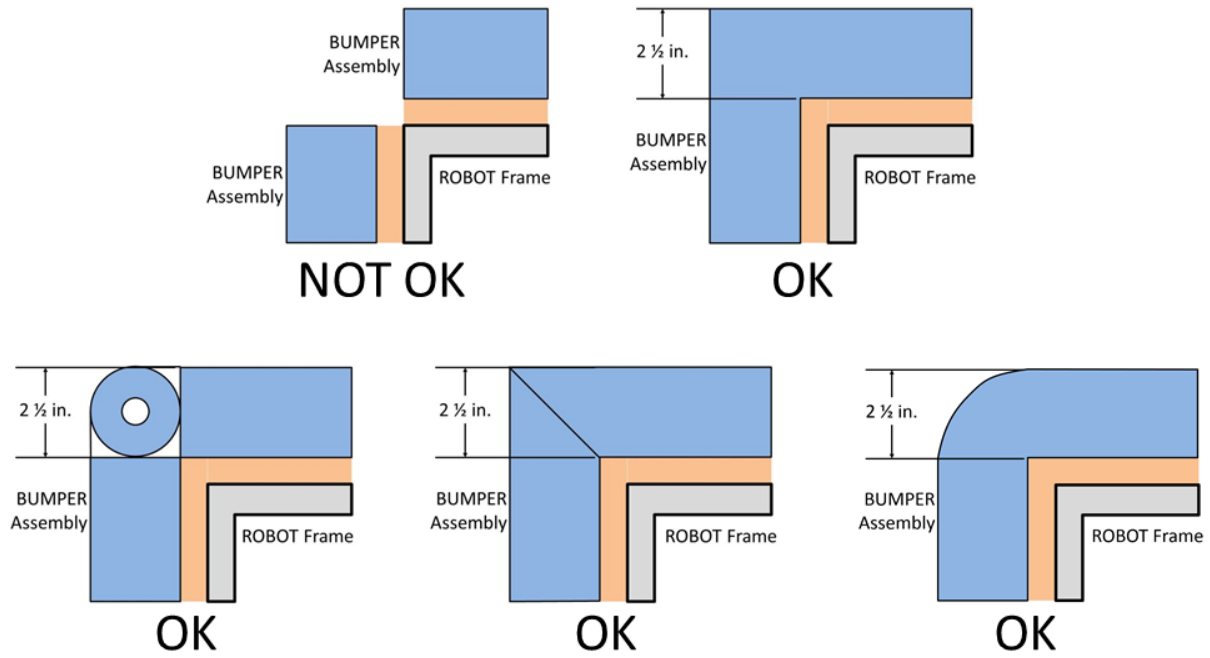

Figure 10-7 Soft Parts of BUMPER Corners
- R32. (Figure 10-7, modified to better represent that the bottom right example is a noodle wrapped around the corner.)